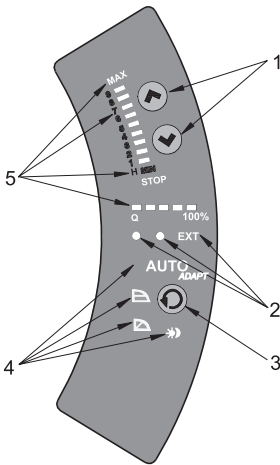

Fig. 11 Control panel
The control panel, fig. 11, incorporates:
The light symbols in pos. 4 of fig. 11, indicate the pump settings: